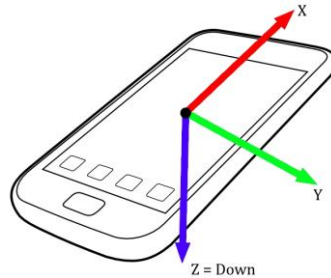

Figure 2: Device Z-Axis facing Down
- 1) Place the device on a flat surface so that the Z-Axis is facing down, as shown in Figure 2, assuming an NED (North East Down) coordinate system. The device must remain completely still for this entire procedure.